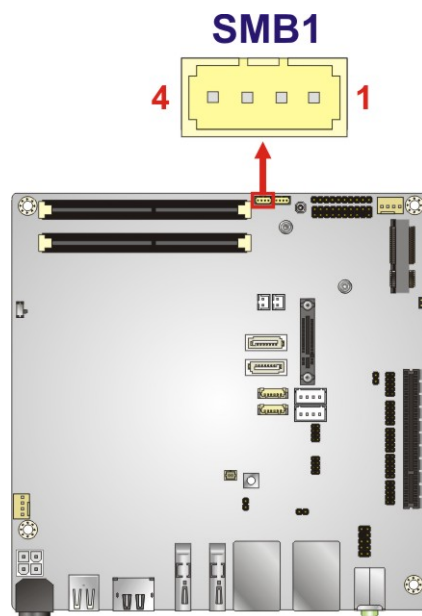

Figure 3-21: SMBus Connector Location
- CN Location:** See **Figure 3-21**